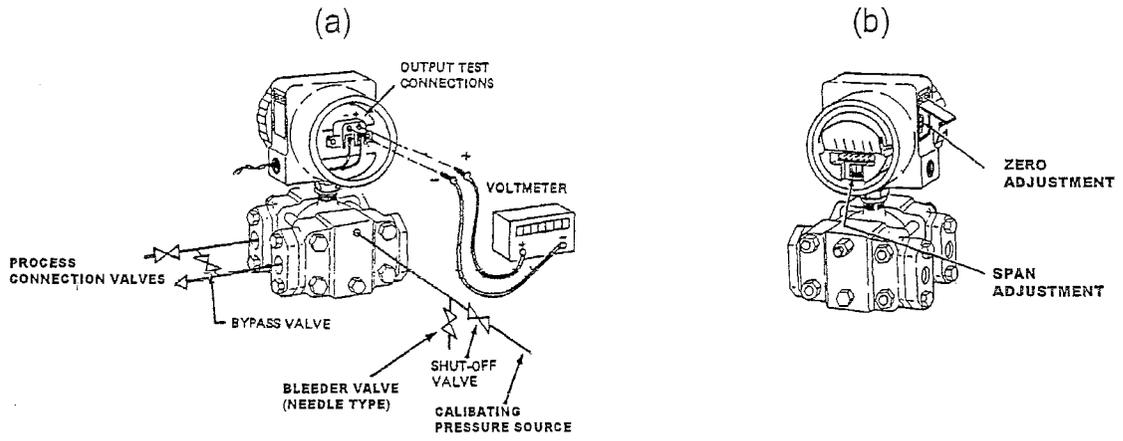

Figure 1.
6. Set calibrating pressure equal to upper range value. Output should be 5.000 V. If necessary, adjust span potentiometer to get correct output. See Figure 1 (b).